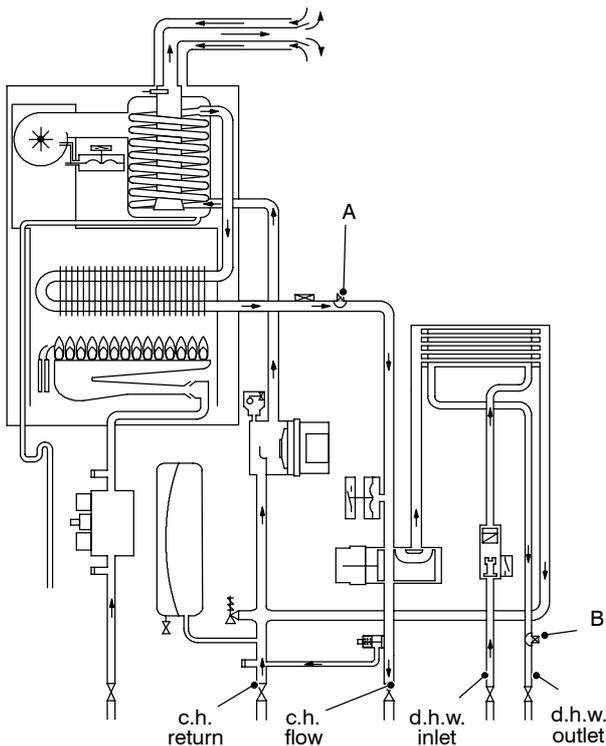
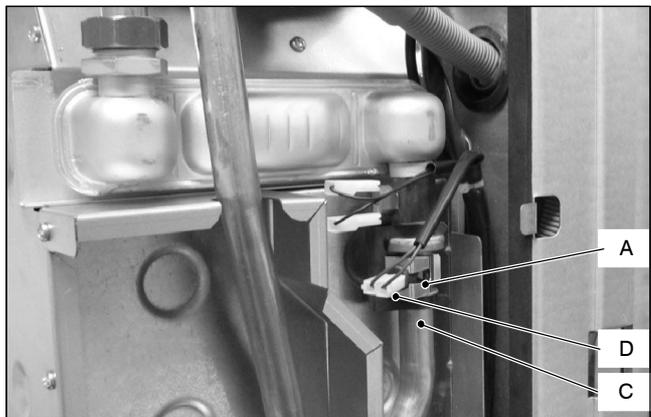

Fig. 2
Fig. 3
On the boiler there are two Temperature probes. One on the output of the primary heat exchanger (c.h. Temperature probe) A in Fig. 2 and Fig. 3; one on the output of the d.h.w. heat exchanger (d.h.w. Temperature probe) B in Fig. 2 and Fig. 4.
- 2 Remove the electric connector D and remove the c.h. Temperature probe A (Fig. 3)